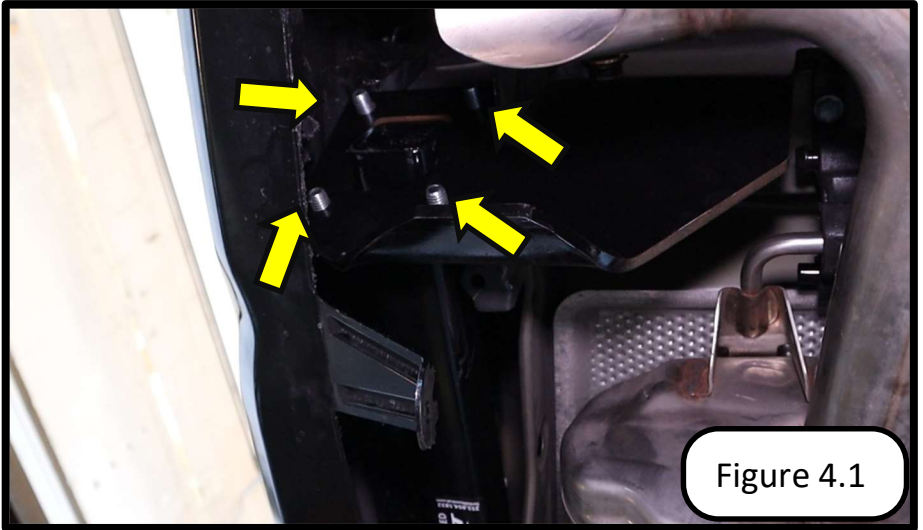

Figure 3.1
- Carefully hold the bumper away from exhaust and slide the Hitch Cross Tube into place. Having a second person to help is recommended for this step. See Figure 3.1